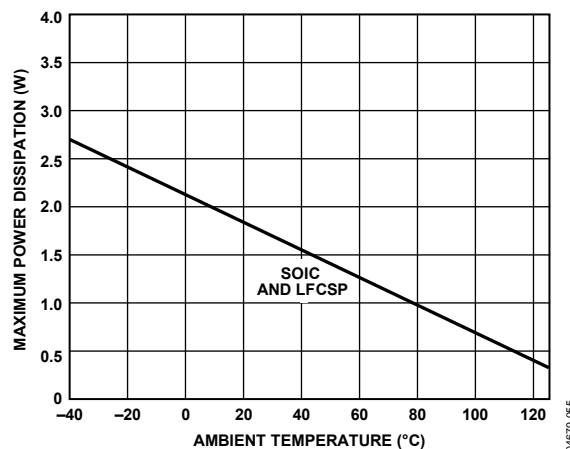

Figure 4. Maximum Power Dissipation vs. Temperature for a 4-Layer Board
Power Dissipation	See Figure 4
Figure 4 shows the maximum safe power dissipation in the package vs. the ambient temperature for the exposed paddle (EP) 8-lead SOIC ( $\theta_{JA} = 70^{\circ}\text{C}/\text{W}$ ) and the 8-lead LFCSP ( $\theta_{JA} = 70^{\circ}\text{C}/\text{W}$ ) on a JEDEC standard 4-layer board.  $\theta_{JA}$  values are approximations.